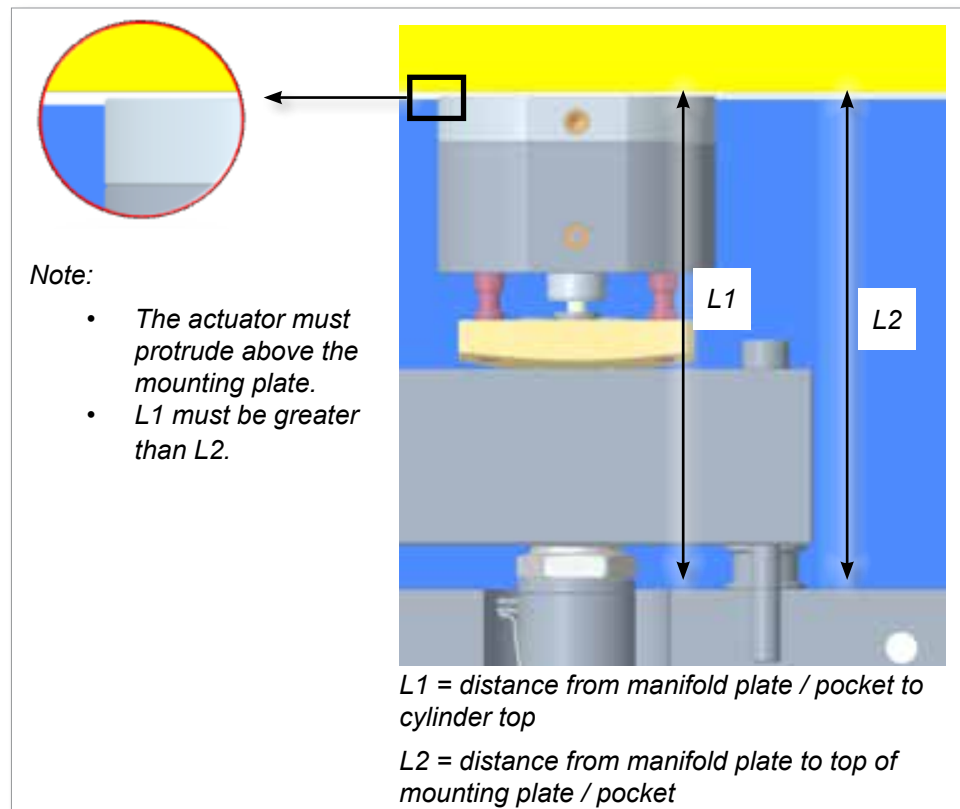

Figure 5-15 Check tooling pocket
9. Confirm that the tooling pocket height and the actuator height meet design requirements as shown on the General Assembly drawing. See Figure 5-15.
The actuator **must** protrude above the top of the mounting plate. See Figure 5-15.